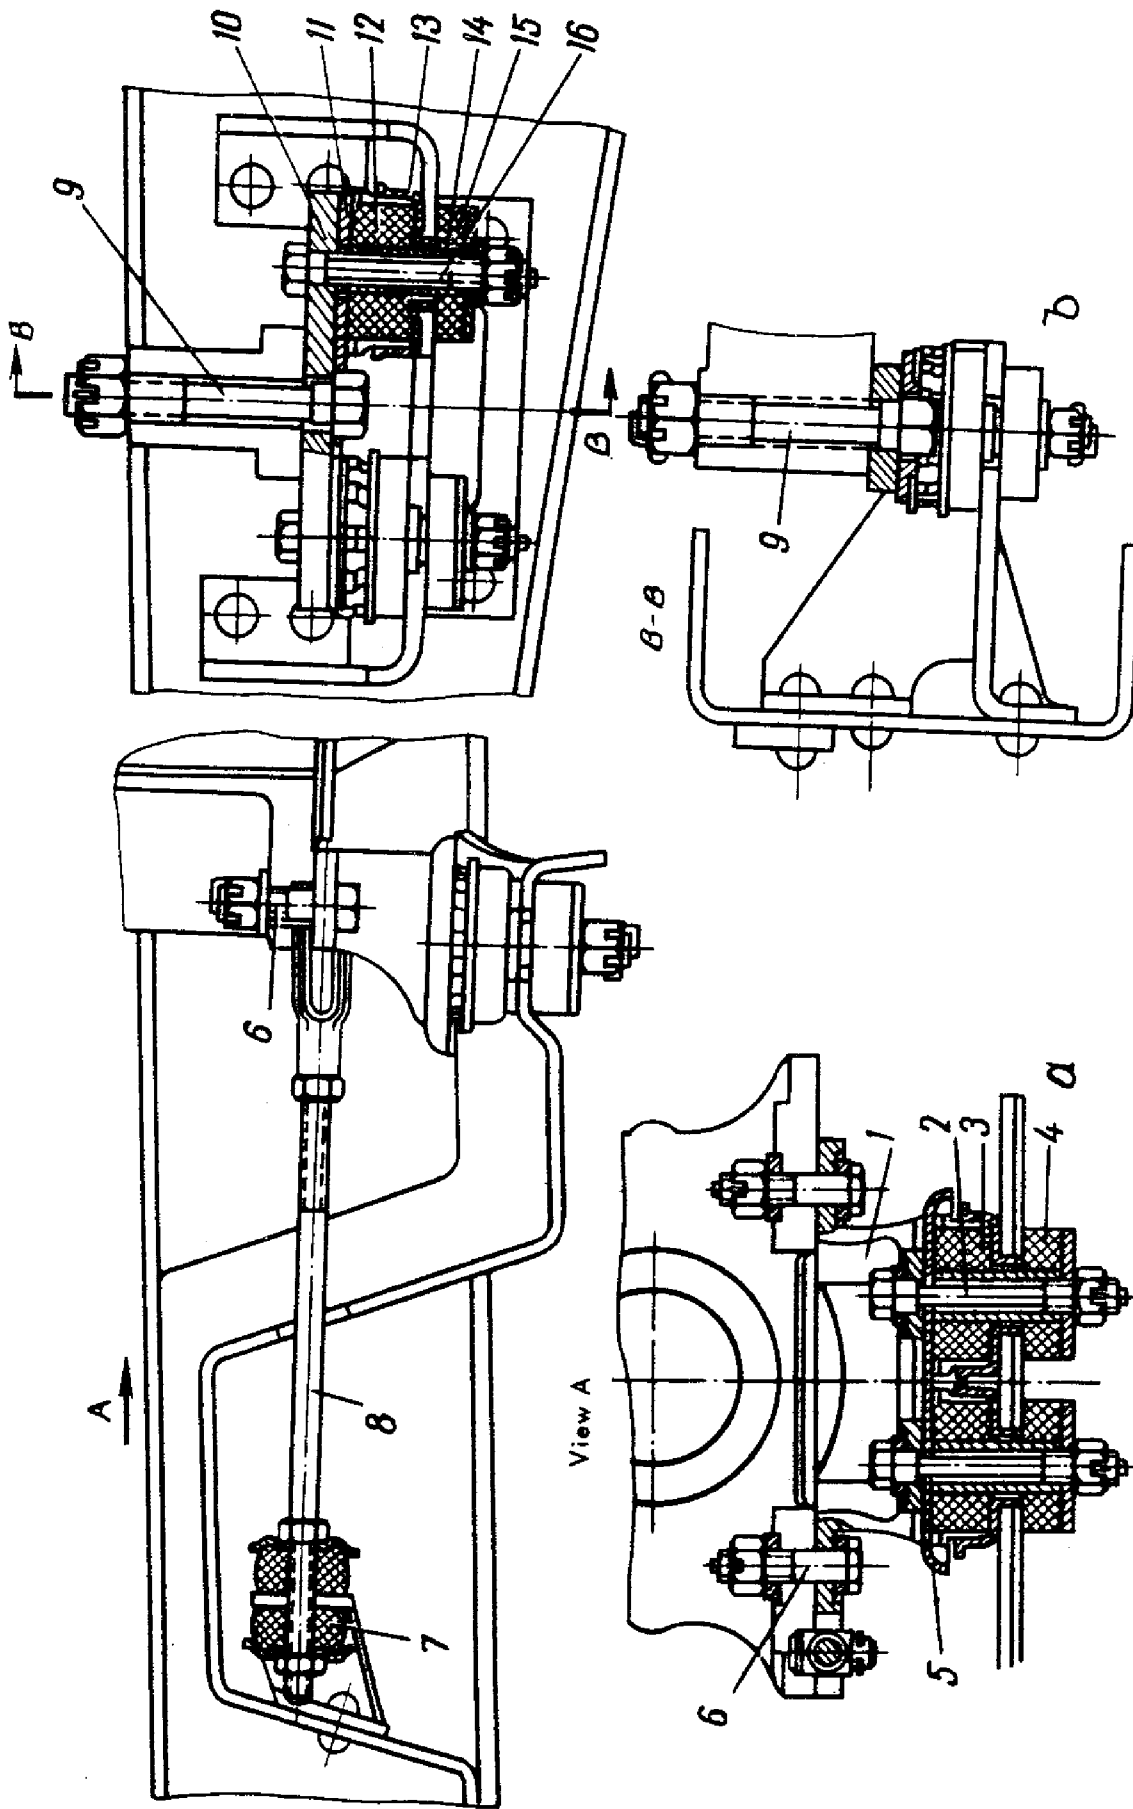

FIG.24. ENGINE SUSPENSION
6. Tighten the nuts of bolts 2 (Fig.24) of the engine front (9) and rear (16) engine suspensions and torque arm. The nuts of bolts 9 of the rear engine suspension should be tightened to a torque from 20 to 25 kgf.m, and the nuts of bolts 2 and 16 of the front and rear suspensions, respectively, to a torque of 8 to 10 kgf.m.